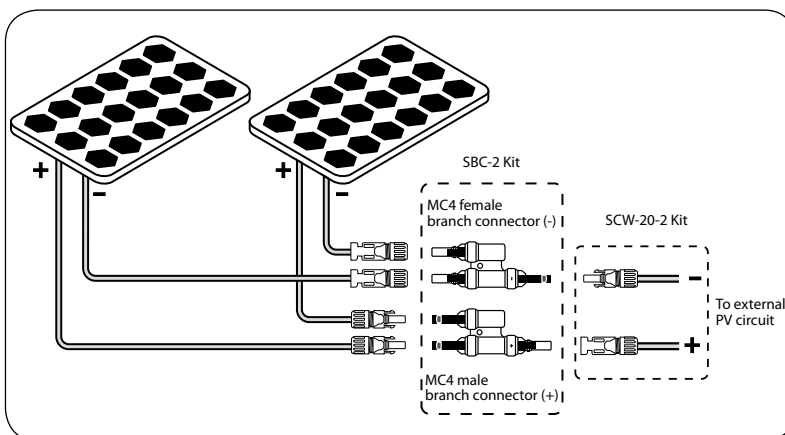

Fig. 9.1. Connecting solar modules in parallel.
2. Connect the Positive leads (marked as '+') from the two solar panels to the suitable mating branch connector (as in Fig 9.1).
3. Connect the Negative leads (marked as '-') from the two solar panels to the suitable mating branch connector (as in Fig 9.1).